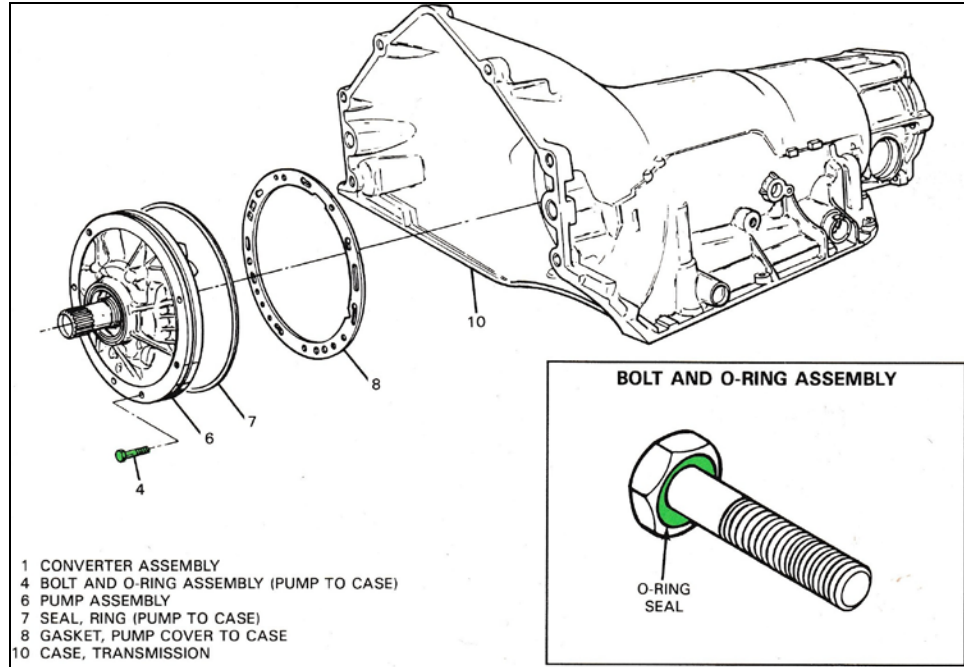

FIGURE 2-44
Use Figure 2-44 as a guide to remove the oil pump (49) and related components.